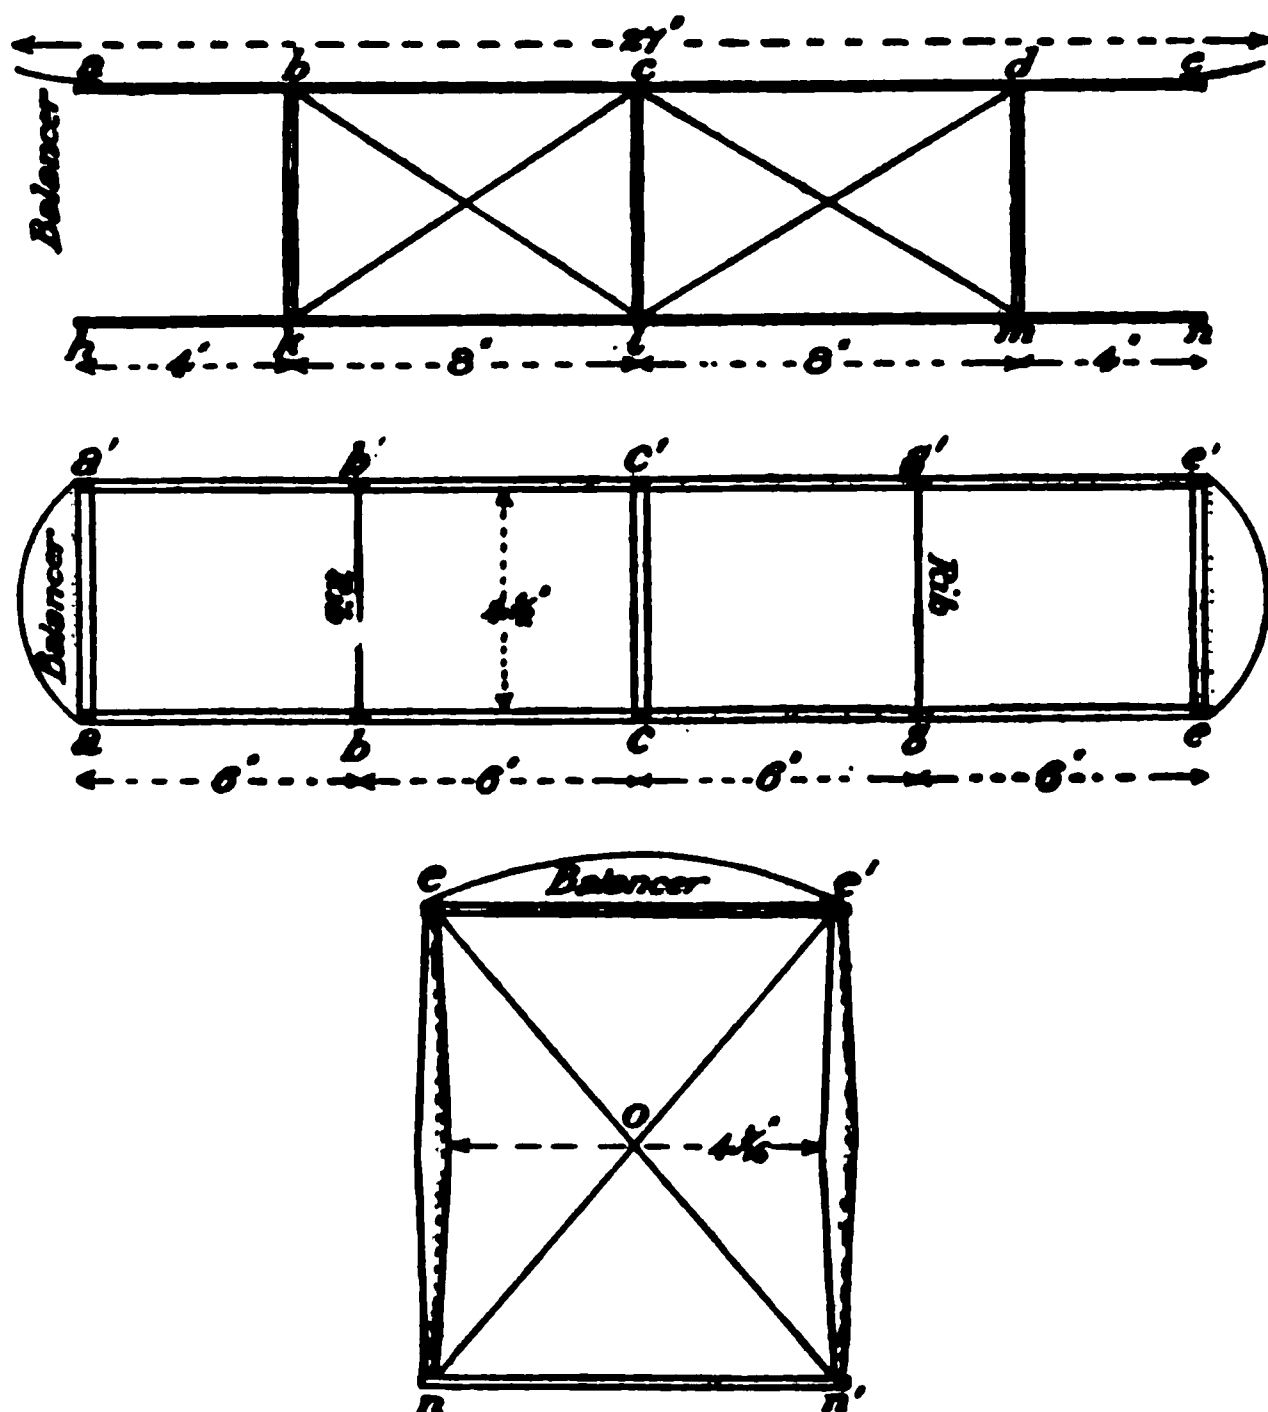

Fig. 110.—Front, plan, and side views of planes and supports for biplane.
*The Main Planes.*—In Fig. 107 a hydro-aeroplane with a single main plane is specified. The double planes shown in Fig. 110 are for the r.o.g. (rising-off-ground) model. The machines have been
As has already been stated, the r.o.g. drawings are for a biplane type of model. Let us consider the planes in detail. Fig. 110 shows them in elevation—that is, as seen from in front—and in plan, or as seen from above. The rectangular framework of the two planes can be constructed of white-wood (silver spruce is stronger, but heavier in the proportion of about 5 to 4) of  $\frac{3}{16}$ -in. by  $\frac{1}{8}$ -in. section, glued and pinned at the corners  $a^1$ ,  $e^1$ ,  $e$ ,  $a$ , and with a similar piece across from  $c^1$  to  $c$ ;  $bb^1$  and  $gg^1$  are two wire ribs (20-gauge piano-wire), and there is a third across above the wooden rib from  $c$  to  $c^1$ .
We have next to connect the two frames. This is done by means of six struts, two of silver spruce and four of whitewood. These struts should be of streamline section from front to rear, and also tapered as shown in Fig. 110, since thus are obtained maximum strength where most wanted, minimum weight, and minimum head resistance—all three very important factors. These struts have a maximum width of about  $\frac{1}{4}$  in., and a maximum breadth of about  $\frac{1}{4}$  in. The two silver spruce struts are employed at the centre, two of whitewood for each end.
Having fixed the struts and planes together, allow at least twelve hours for the glue to dry and set thoroughly. The bracing wires, *e*, *o*, *n*1, and *e*1, *o*, *n* (Fig. 110), and the corresponding wires
The bracing wires *bl*, *ck*, *cm*, *dl*, and their fellows at the rear can next be inserted, *or* the fabric (similar to that used for the elevator) can be stitched on first. Or, if preferred, the planes can be covered *before* the struts are attached. On the whole, this last is perhaps the simplest procedure, since the various parts are then easier to get at. In this case the sewing should not be done close up to the sides, but  $\frac{1}{4}$  in. in from the leading edge, and  $\frac{1}{2}$  in. in from the trailing or rear edge. The reader must bear this in mind when cutting out the fabric. The overlapping fabric can, of course, be stuck together with well-made, thin glue, but this course has the disadvantages already pointed out. The balancers or stabilizers (see Fig. 110) can now be put on. These are two semicircular pieces of thin aluminium foil. The straight edge of each is turned over about  $\frac{3}{16}$  in., so as to double the thickness and stiffen it. A number of small holes are then made with a needle or fine punch just beyond this, and the aluminium "sewn" or threaded on to the ends *aa*1 and *ee*1, thin,